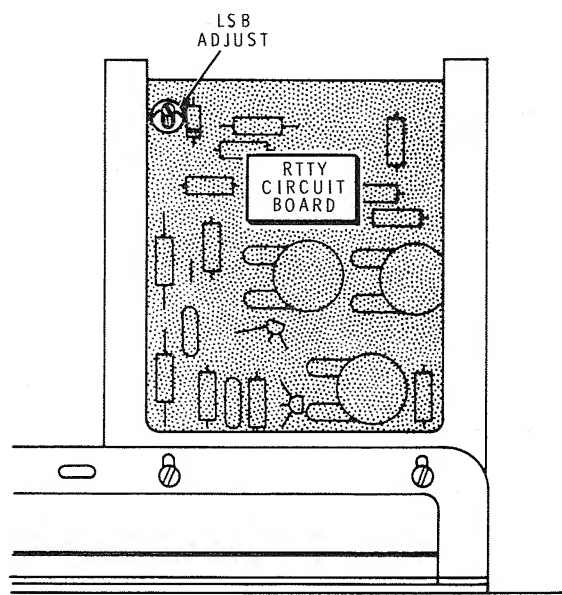

Figure 12
- ( ) Refer to Figure 12 and adjust the LSB ADJUST coil on the LMO until the tone goes lower and lower in frequency and disappears. NOTE: It may be necessary to increase the AF GAIN control while adjusting the LSB ADJUST coil. This LSB ADJUST coil is adjusted with a small screwdriver through a hole in the RTTY circuit board.